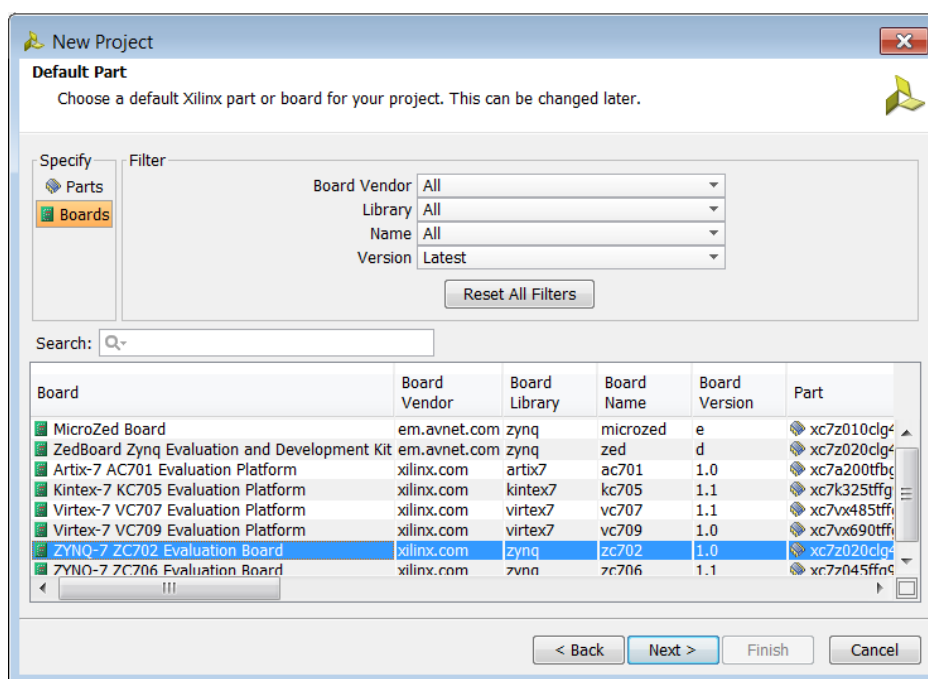

Figure 219: Specify the Vivado Project Details
- b. Select the **ZYNQ-7 ZC702 Evaluation Board** (Figure 219).